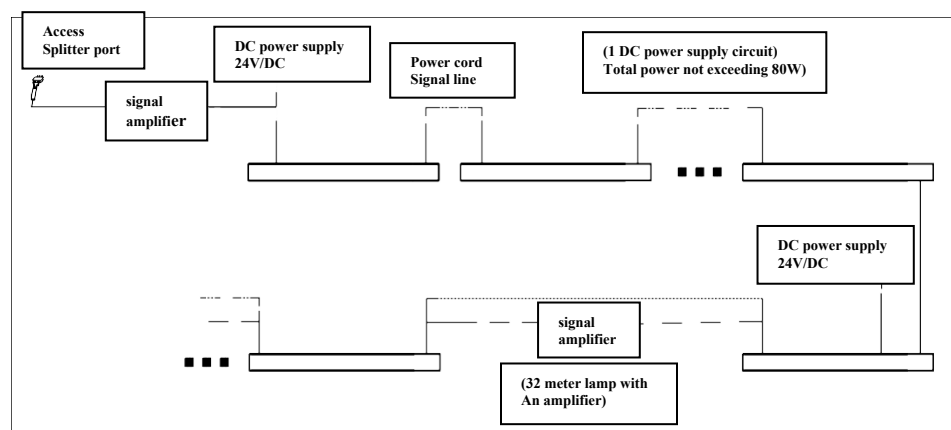

Figure 5
2. The wiring of dimming function lamps is shown in Figure 5